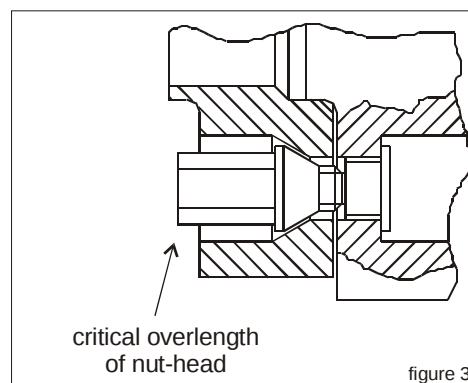
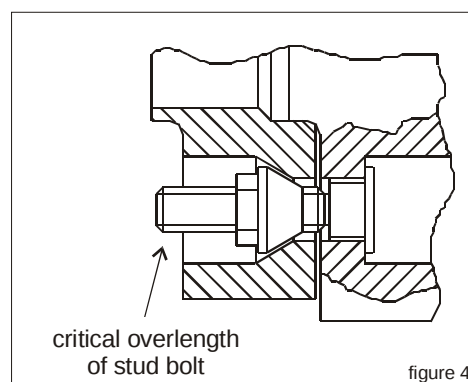

figure 3
figure 4
Please note that neither the head of the fastening bolts (Figure 3) nor the shaft of the stud bolts mounted on the wheel support must protrude beyond the spacer surface (Figure 4). If this is the case, then the wheels used must have cast pockets or reliefs which can accommodate the protruding head. If this is not the case, it will not be possible to fix the wheel correctly, and there will be an increased risk of accident, which can result in damage to property and personal injuries. If necessary, please contact our Development Department on tel. no. +49 (0) 2721 / 511-342.